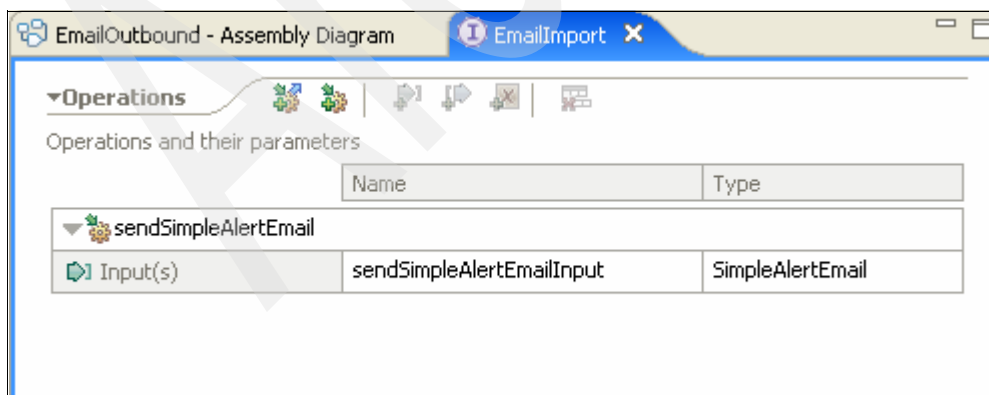

Figure 3-226 EmailImport interface
7. Likewise, if you expand the **EmailOutbound** → **Interfaces** and double-click **EmailImport**, you can see the interface that the adapter uses to send e-mail, as shown in Figure 3-226.